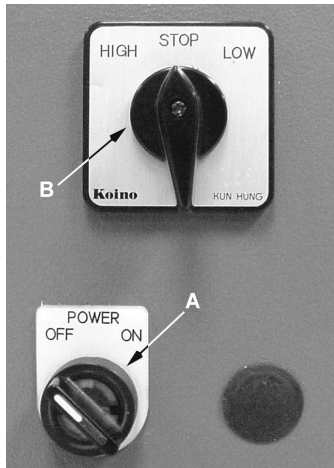

Figure 8
2. Turn the power on (A, Fig. 8).
3. Select the cutting speed (B, Fig. 8).